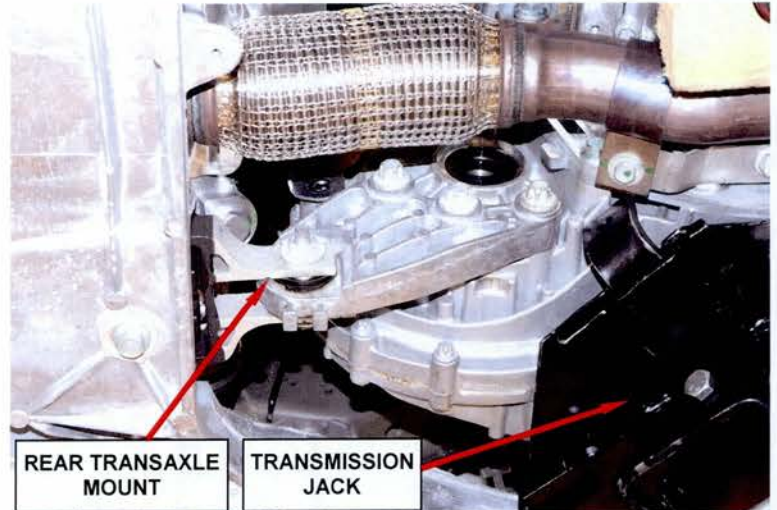

Figure 9 – Rear Transaxle Mount
32. Remove and save the rear transaxle mount (Figure 9).